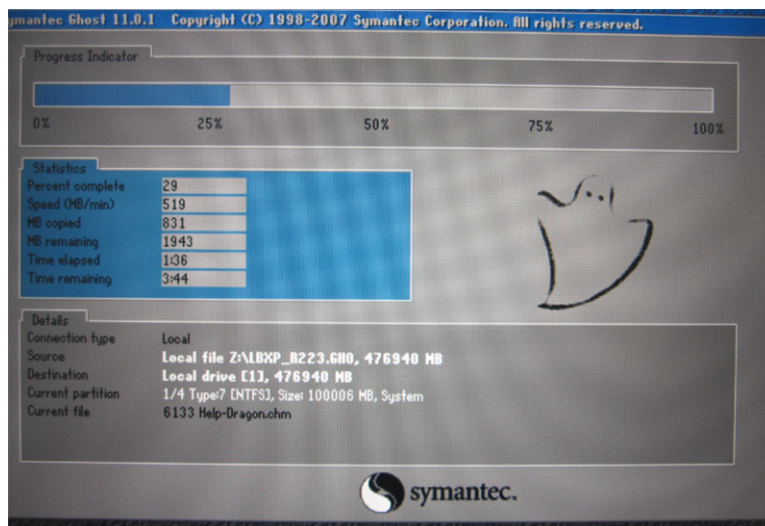
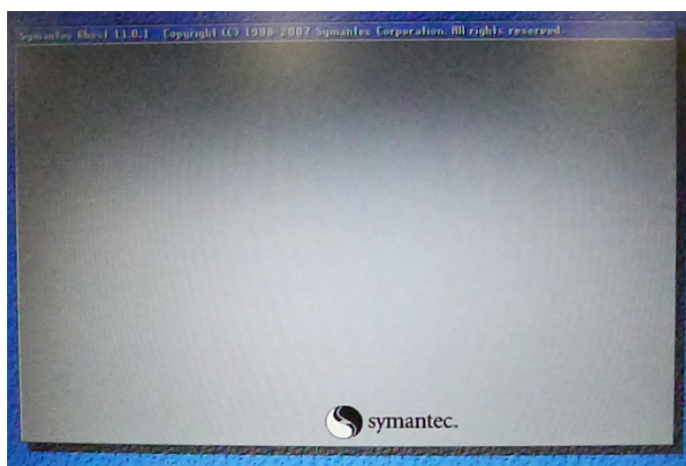

Figure 3-39 System USB memory stick loading
Figure 3-40 System USB memory stick loading blank message
- 8.) System USB memory stick will be loaded as shown in Figure 3-39 on page 3-41 . Wait for the software installation to complete. (Typical installation time: 5-10 minutes). Status bar on the screen indicates progress.
If the screen displays as show in Figure 3-40 on page 3-41 following step 7 , wait about 1 minute until Figure 3-39 on page 3-41 displays.